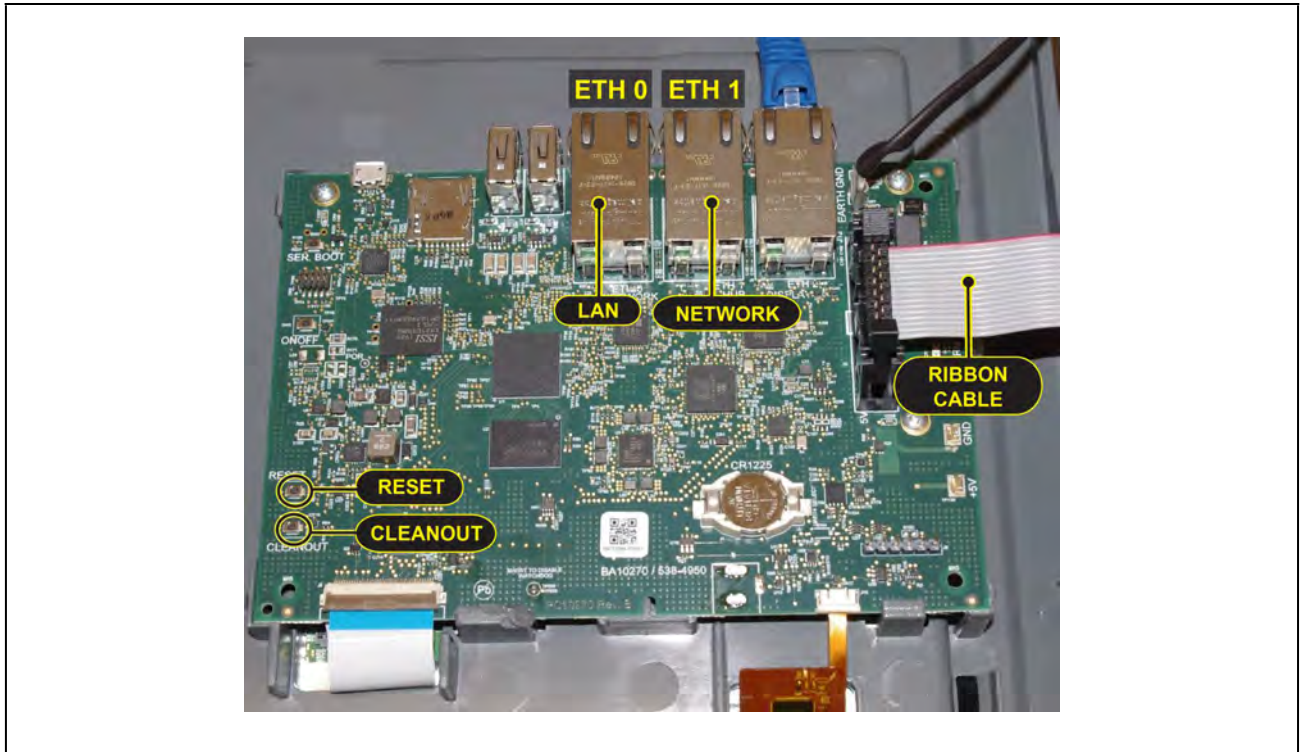

Figure 2-7 - E3 Circuit Board
2. Connect the 2-pin 7.5mm power connector and Ground wire as shown in **Figure 2-7**